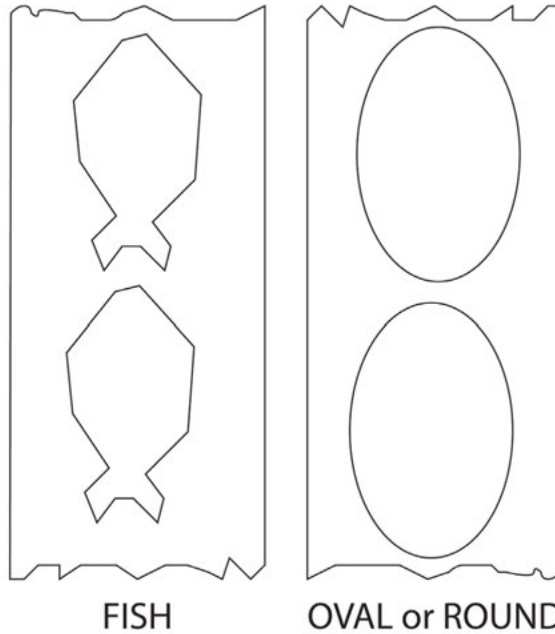

**FIGURE 9**
3. If an optical density of at least 2.3 cannot be achieved in the black stripe on the back of the liner, the liner width should be increased (as shown in Figure 9) so that the preprinted label is not in the gap sensor path. For the Impact S, the sensor path in the center of the label must be free of black preprinting.